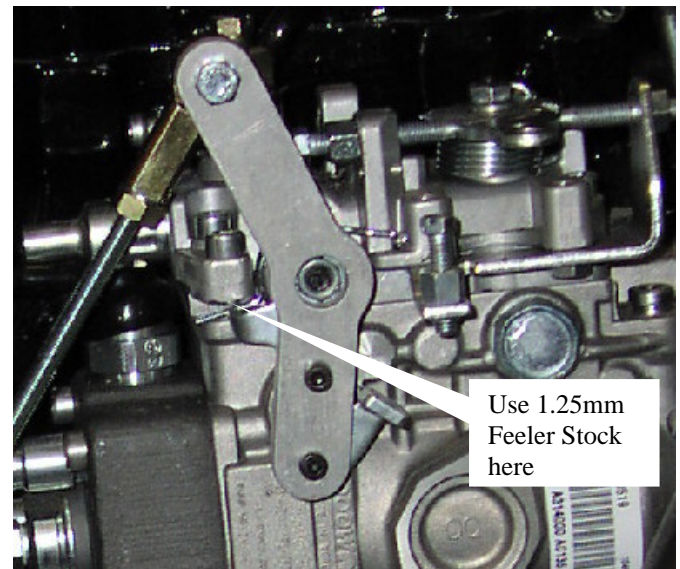

Figure 2
4. Install the Run/Stop Lever Adapter (5) using the two supplied 6-32 Bolts and 6-32 KEP Nuts (Items 6 & 7) as shown in Figure 2. Use Angled Needle-nose pliers to hold the KEP Nut (7) in place. Once the Run/Stop Lever Adapter (5) is installed and seated flat on the Run/Stop Lever, tighten the 6-32 bolts to 20in-lb.